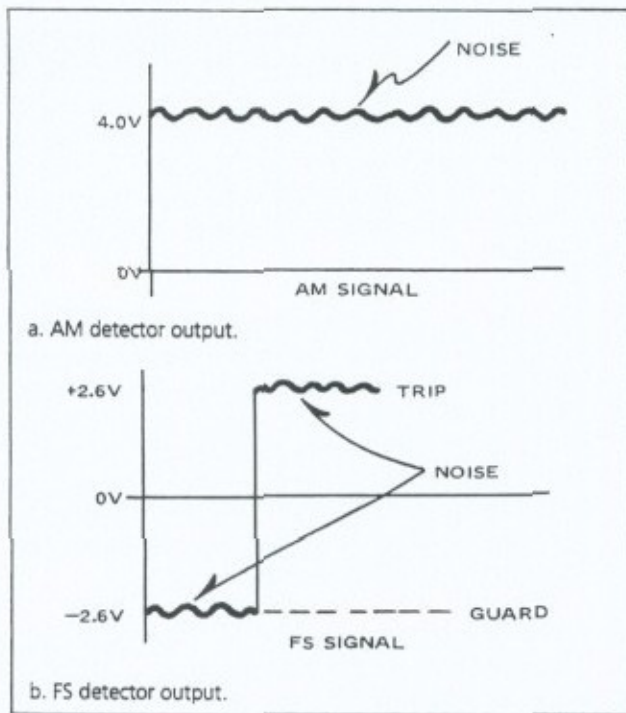

Figure 9-13. Typical detector outputs from FS/AM detector module (with noise)
b. Noise Detection. Dc signals are presented to the RFL 67A LOGIC module by the FS/AM detector module (Section 8). When noise is present on the communication lines, it will also appear on the detector outputs, as shown in Figure 9-13.